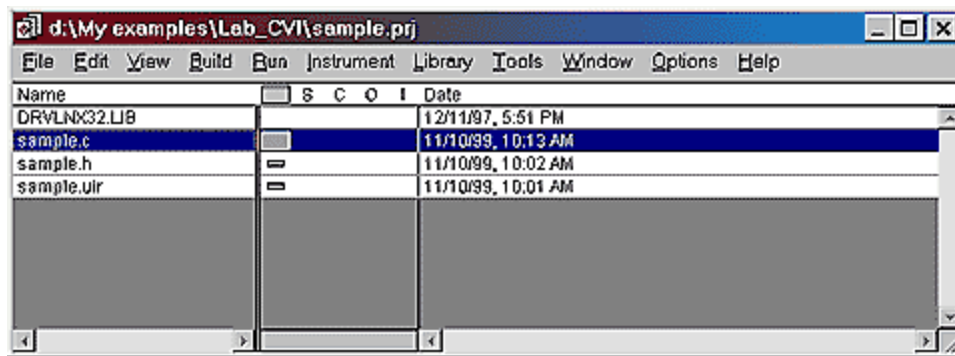

Figure 1: CVI IDE Environment
- When you launch the "CVI IDE" (Integrated Development Environment) you should see a screen similar to the one shown in *Figure 1*. You will need to add source code (\*.c), header files (\*.h), and libraries (\*.lib) to your project, just as you would with a Visual C/C++ project.